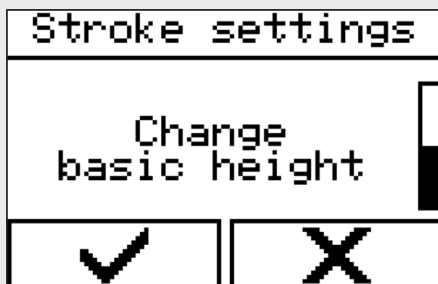

Fig. 36: 'Change basic height' menu
- ⇒ The menu item 'Change basic height' (Fig. 36) has been selected.